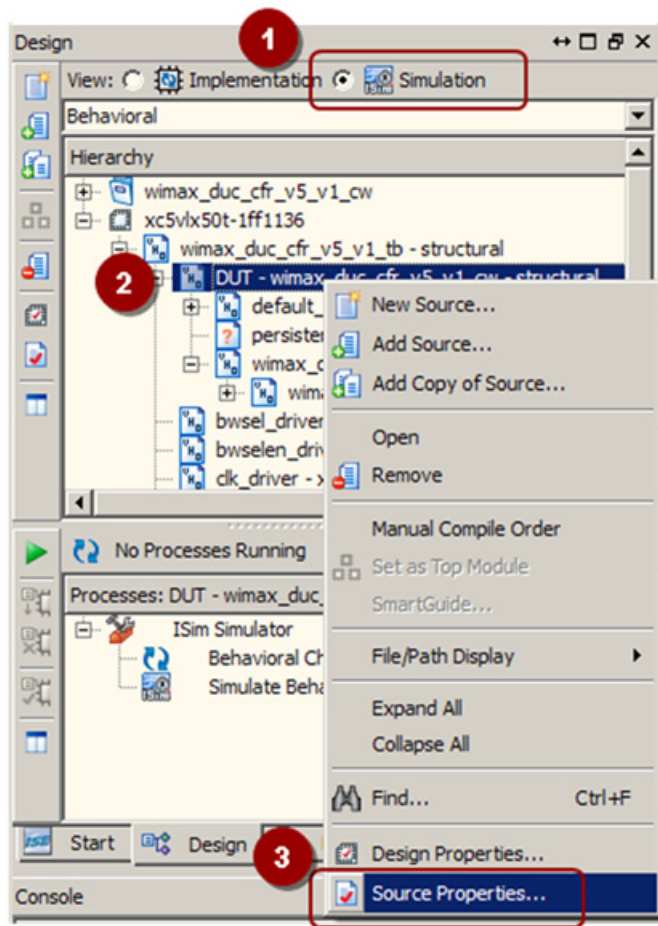
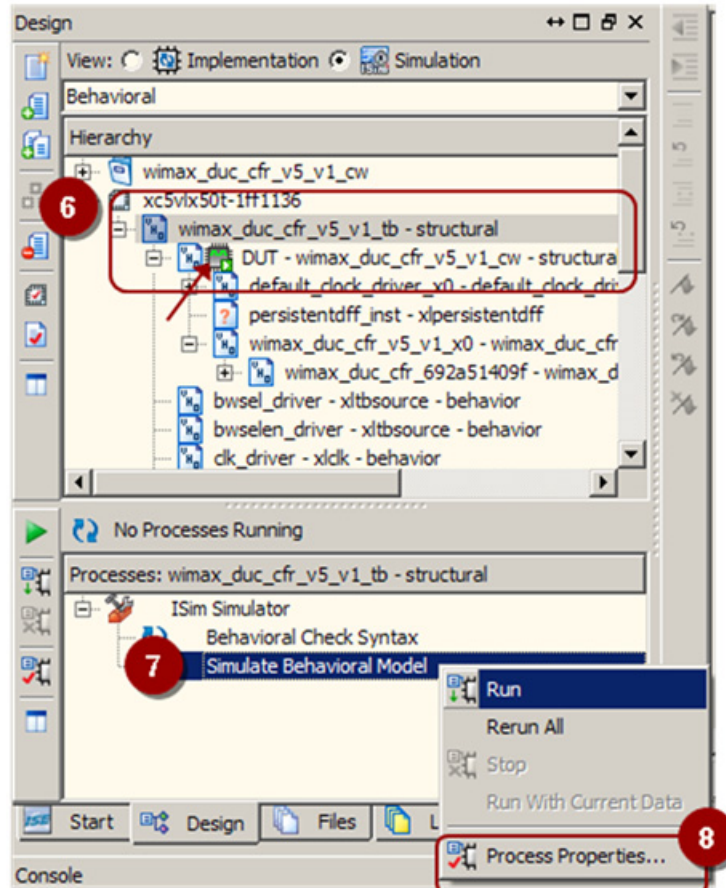

Figure 8-1: Steps 1, 2, and 3
Figure 8-3: Steps 6, 7, and 8
7. Open the **Process Properties** for the Simulate Behavior Model to specify any additional options for ISim before starting the compilation and simulation process. Figure 8-1 through Figure 8-3, page 88 display steps 1 through 8: